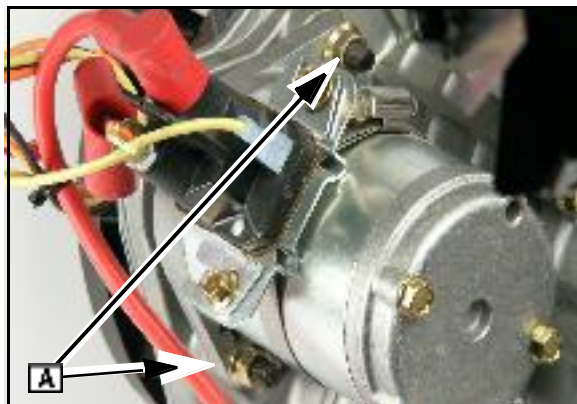

Fig. 36
2. Remove the nuts ([A] Fig. 36) that support the starter motor.